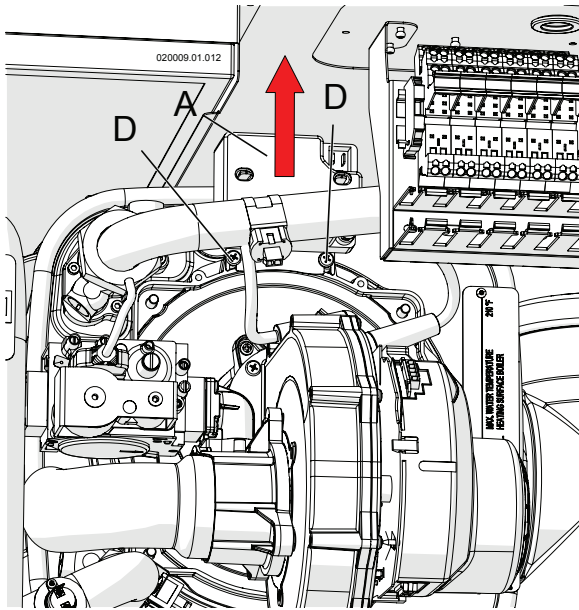

Figure 15-2 - Spark generator disassembly
- 3.- disassemble spark generator "A" in Figure 15-2, unscrewing screws "D" in Figure 15-2 and disconnecting it from the ignition glow plugs.